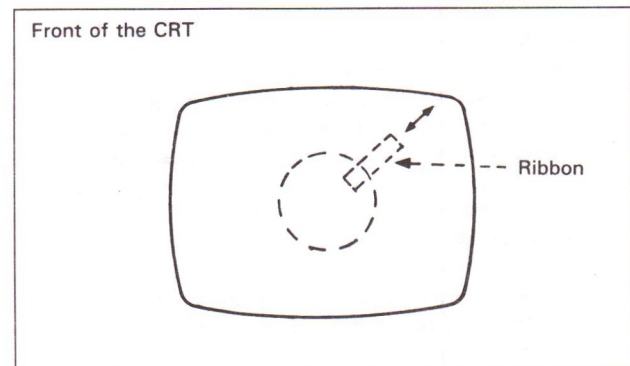

Fig. 9
2. Maintaining that position, adjust the depth for inserting the ribbon and correcting the quantity of convergence in order. (**Fig. 9**)